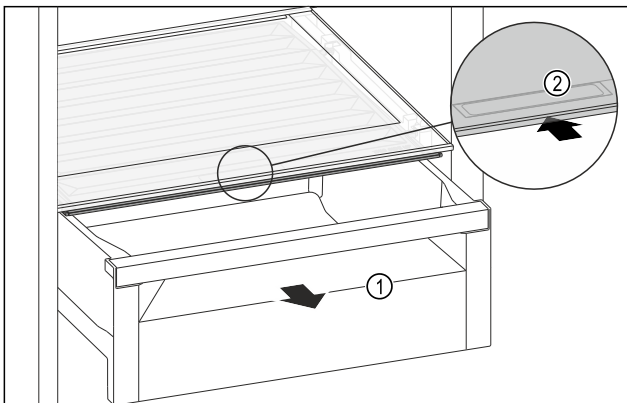

Fig. 125
- ▶ Pull out the drawer Fig. 125 (1).
- ▶ Grasp the recessed grip Fig. 125 (2) on the compartment lid and push the compartment lid backwards at the same time.